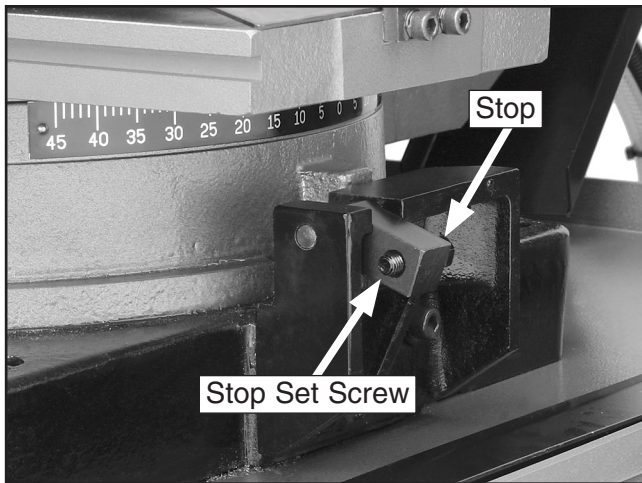

Figure 19. Stop.
2. Flip the stop out as shown in **Figure 19**.